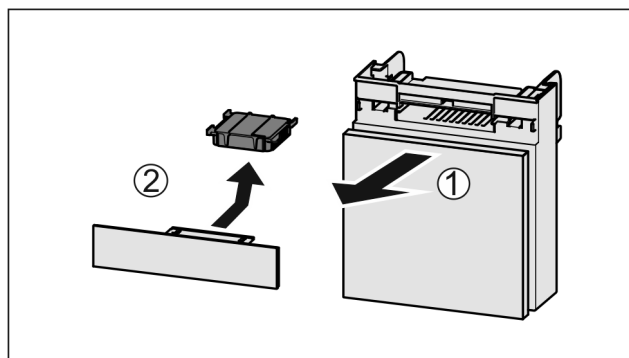

Fig. 242
- Pull out the compartment Fig. 242 (1).
- Remove the carbon filter Fig. 242 (2).